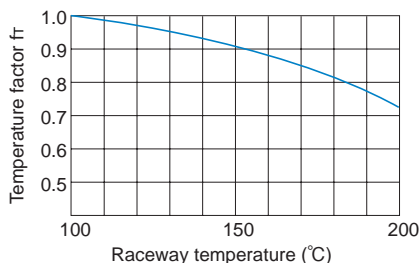

Fig.2 Temperature Factor (f_r)
- C : Basic dynamic load rating (N)
- P_C : Calculated load (N)
- f_T : Temperature factor (see Fig.2 on A-539)
If the temperature of the environment surrounding the operating Linear Bushing exceeds 100°C , take into account the adverse effect of the high temperature and multiply the basic load ratings by the temperature factor indicated in Fig.2.